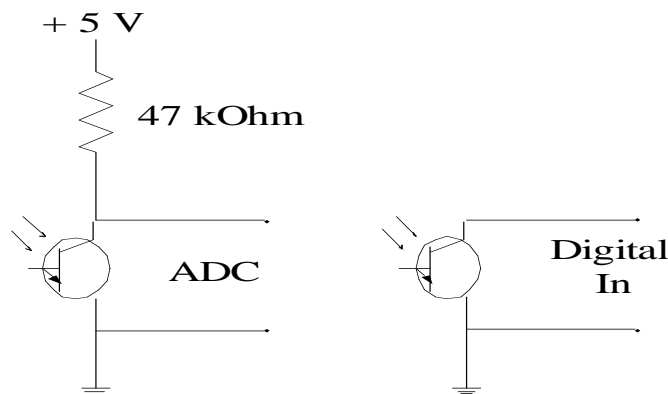

Figure 1. Photo transistor
- ∞ phototransistor: see Figure 1
The principle of dead reckoning is to sample pulses from the wheels. From these the distance is, which the robot has moved, calculated. This includes both rotational and translational movement since the last sample. Together these samples form a path and the position of the robot can be predicted. An example of a robot path is shown in Figure1.